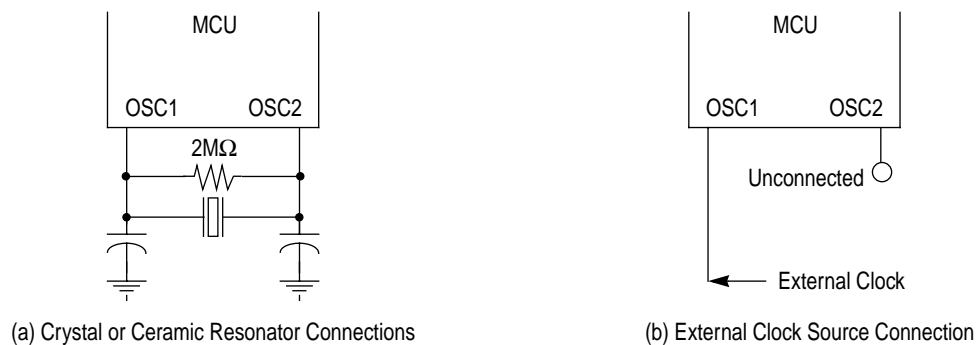

Figure 1-3. Oscillator Connections
1. A crystal as shown in **Figure 1-3(a)**
2. A ceramic resonator as shown in **Figure 1-3(a)**
3. An external clock signal as shown in **Figure 1-3(b)**
The circuit in **Figure 1-3(a)** shows a typical oscillator circuit for an AT-cut, parallel resonant crystal. The crystal manufacturer's recommendations should be followed, as the crystal parameters determine the external component values required to provide maximum stability and reliable start-up. The load capacitance values used in the oscillator circuit design should include all stray capacitances. The crystal and components should be mounted as close as possible to the pins for start-up stabilization and to minimize output distortion. An internal start-up resistor of approximately $2M\Omega$ is provided between OSC1 and OSC2 for the crystal type oscillator as a mask option.
In cost-sensitive applications, a ceramic resonator can be used in place of the crystal. The circuit in **Figure 1-3(a)** can be used for a ceramic resonator. The resonator manufacturer's recommendations should be followed, as the resonator parameters determine the external component values required for maximum stability and reliable starting. The load capacitance values used in the oscillator circuit design should include all stray capacitances. The ceramic resonator and components should be mounted as close as possible to the pins for start-up stabilization and to minimize output distortion. An internal start-up resistor of approximately $2M\Omega$ is provided between OSC1 and OSC2 for the ceramic resonator type oscillator as a mask option.
An external clock from another CMOS-compatible device can be connected to the OSC1 input, with the OSC2 input not connected, as shown in **Figure 1-3(b)**. This configuration is possible **ONLY** when the crystal/ceramic resonator mask option is selected.